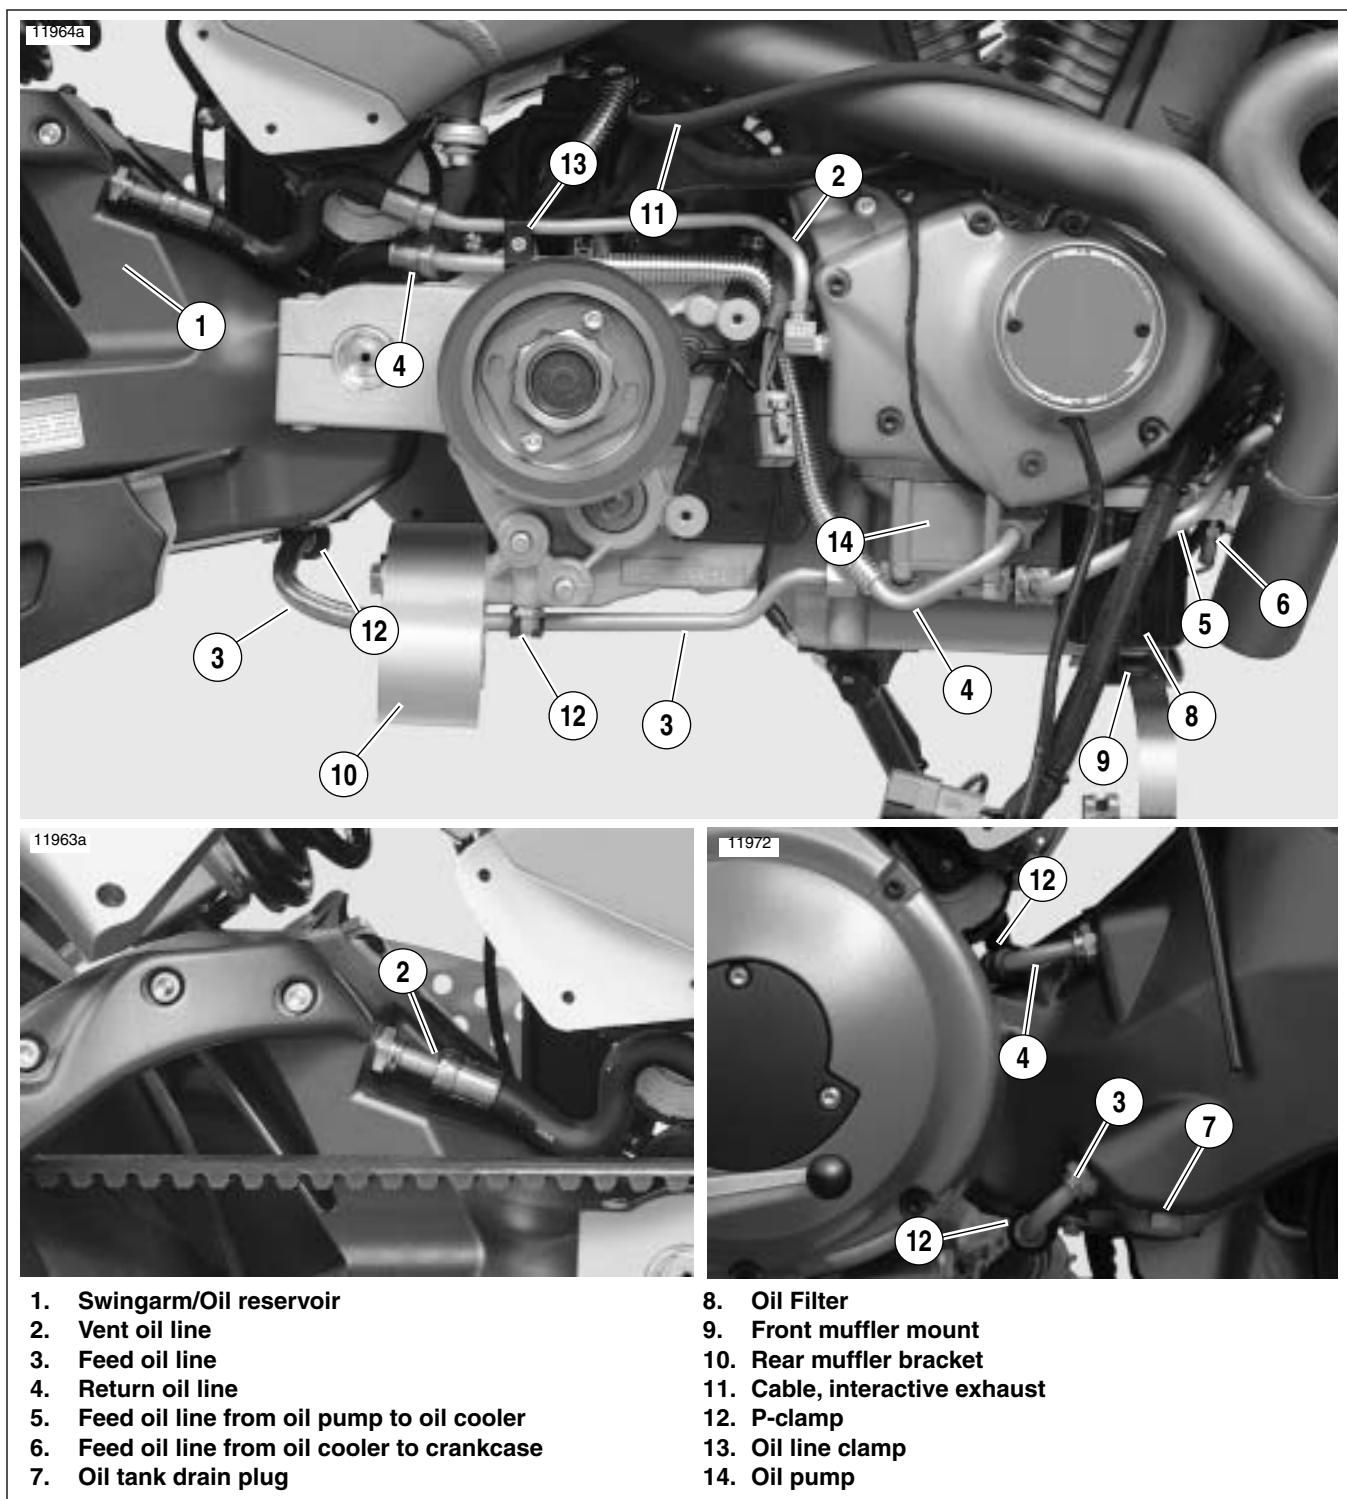

Figure 3-46. Oil Lines and Connections
21. See Figure 3-46. Install the feed, return and vent oil lines starting at the engine and working towards the rear of the vehicle. Leave all oil line fittings loose at the engine at this time. See 3.10 OIL LINE FITTINGS.
22. See Figure 3-46. Install p-clamps (12) on feed oil line (3) at crankcase and swingarm/oil reservoir and tighten fastener to 48-72 **in-lbs** (5.4-8 Nm).
23. See Figure 3-46. Install p-clamp on return oil line at the swingarm/oil reservoir and tighten fastener to 48-72 **in-lbs** (5.4-8 Nm).
24. See Figure 3-46. Install oil line clamp (13) attaching vent oil line (2) to return oil line (4) in front of starter motor and tighten to 40-50 **in-lbs** (5-5.5 Nm).